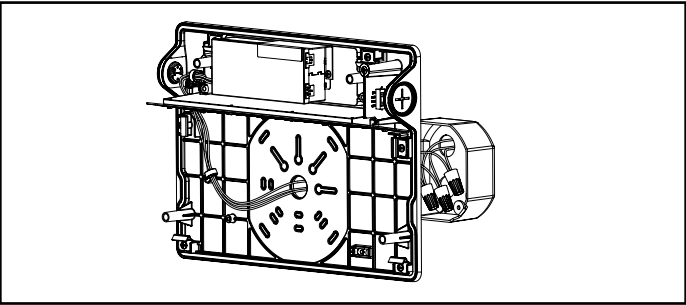

Figure 6
- 4. To avoid compressing the white reflector during final assembly, push the wired terminals back into the junction box through the central wire hole in the rear heatsink. (Figure 6)